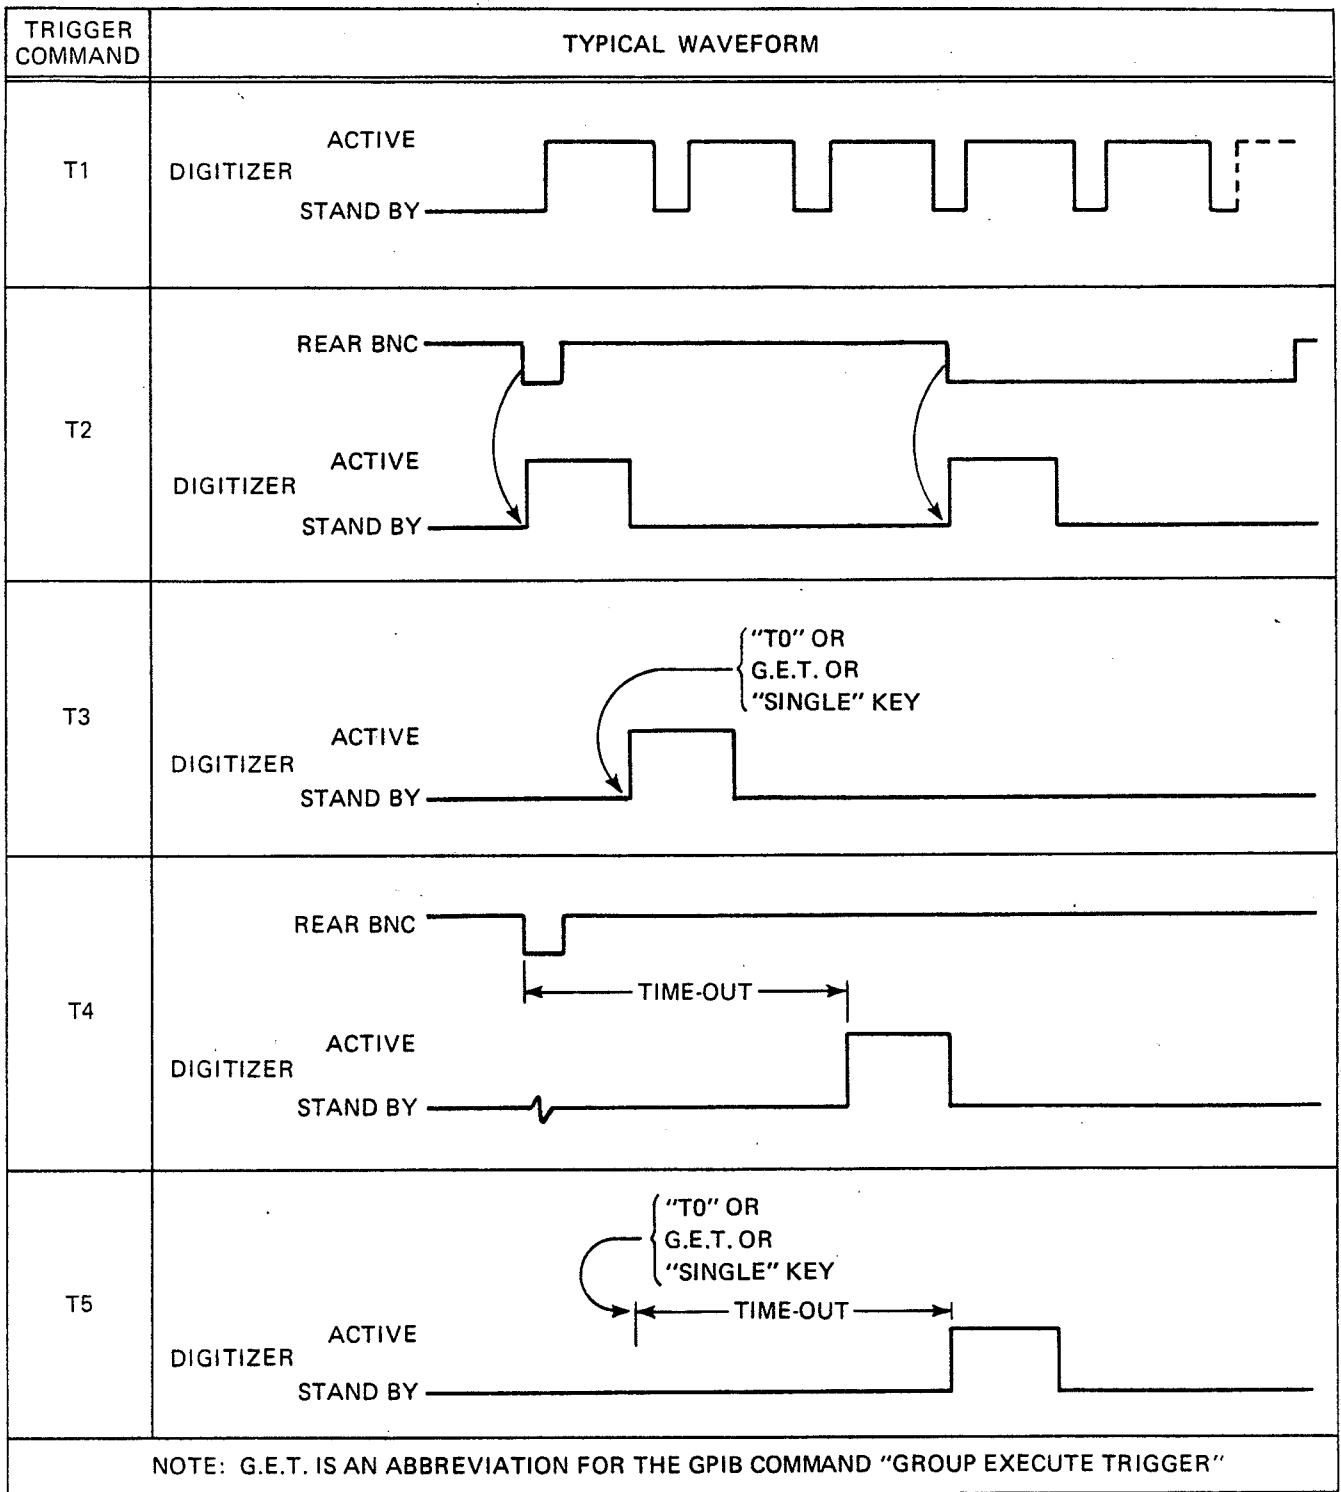

Figure 3.22 - Trigger Command Measurement Timing
3.5.13.1 Trigger commands T0 through T5 control the beginning of a measurement cycle. When the T1 command is transmitted, the instrument operates on the internal trigger on its normal measurement timing cycle (see Figure 3.22).